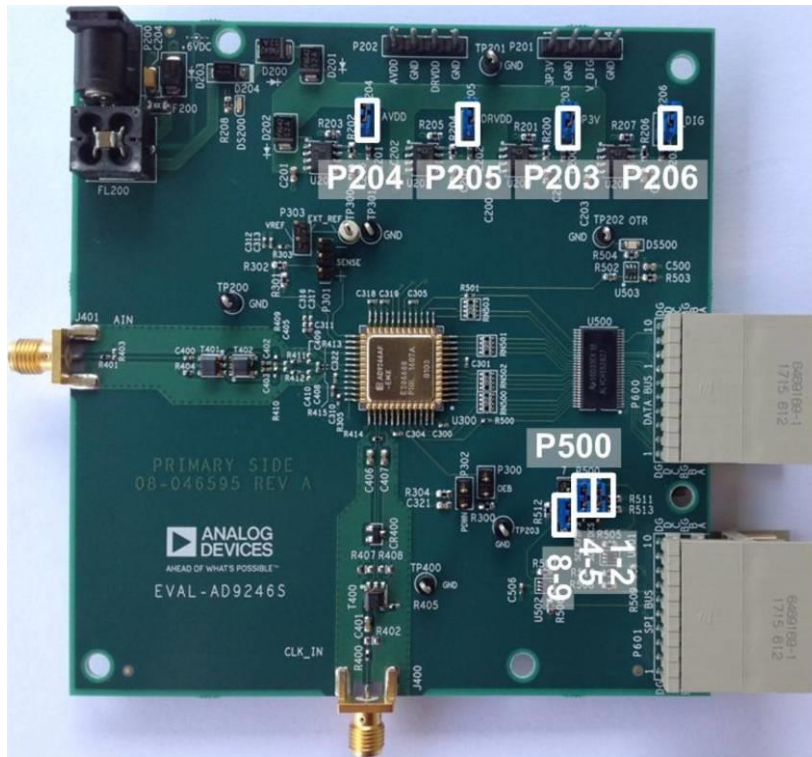

Figure 2. Default Jumper Connections for EVAL-AD9246S Evaluation Board
3. See Figure 2 as well as Table 1 for more details.
Set the jumper settings/link options on the evaluation board for the required operating modes before powering on the board. The functions of the jumpers for the board are described in Table 1. Figure 2 shows the default jumper settings.